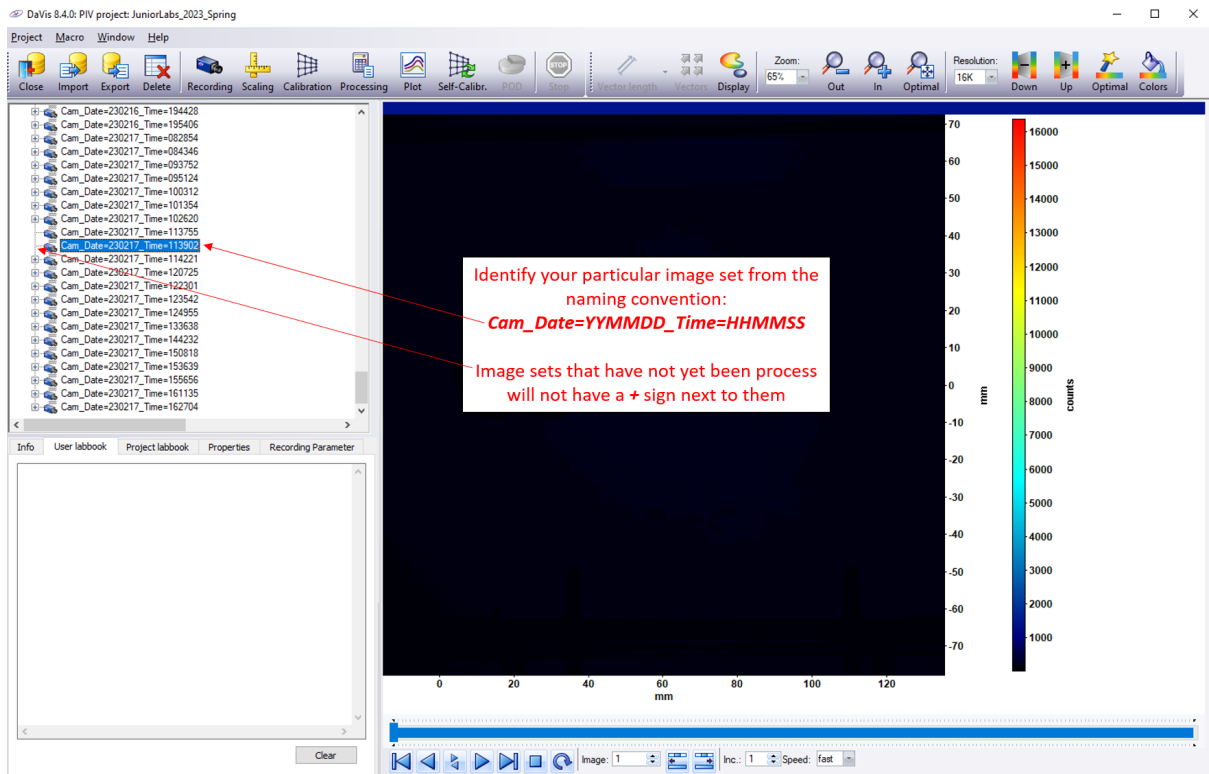

Figure 10: Identify **your** recording using the time and date stamps in the recording name.
- Left click on “Cam_Date=(Today’s date) Time=(time of recording)” to select it. Under Cam_Date, the first two digits indicate year, the middle two digits indicate months and last two digits indicate the day. Under Time the first two digits indicate hours the middle two digits indicate minutes and last two digits indicate seconds, see Figure 10. *Make sure that you are processing the data you just recorded!*